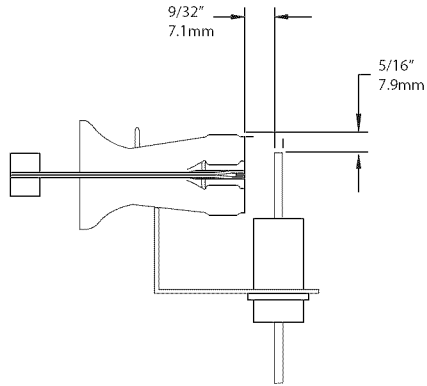

Fig. 21 - Igniter Position - Side View
6. For Silicon Nitride igniters, see Fig. 21 and 22.